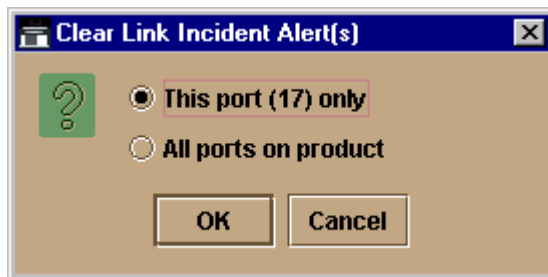

Figure 2-14: Clear Link Incident Alert(s)
2. Select the *Clear Link Incident Alert(s)* option. The *Clear Link Incident Alert(s)* dialog box displays (Figure 2-14).